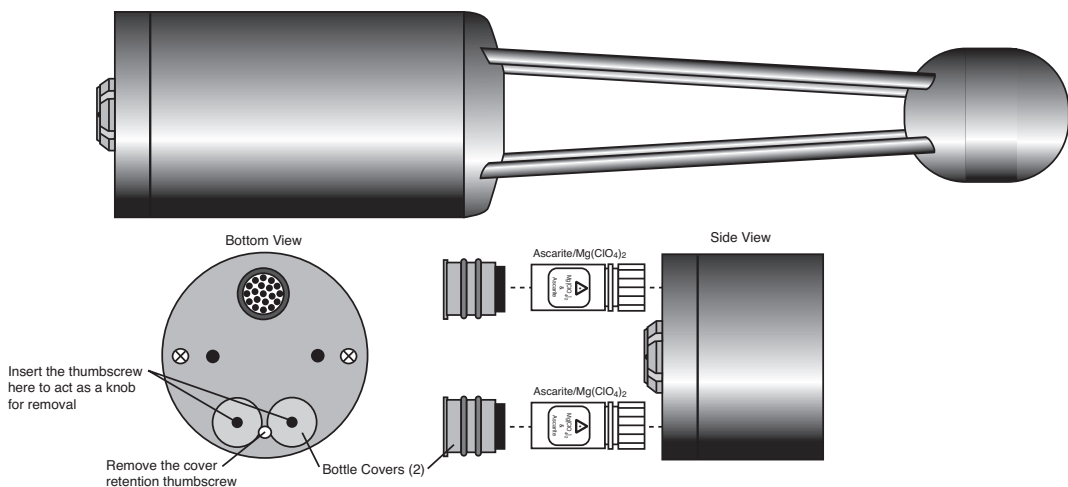

Figure 6-4. Remove the thumbscrew, thread into the bottle covers and replace the chemicals.
3. There are two bottle covers, each with an O-ring seal, at the base of the sensor head (Figure 6-4 on the next page). Remove the cover retention thumbscrew. Thread this